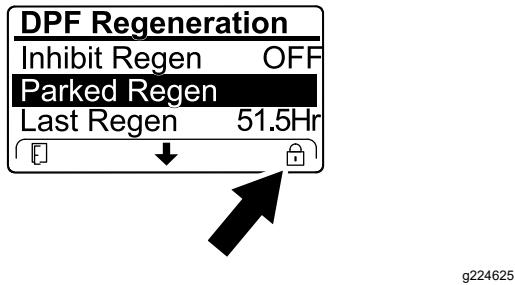

Figure 76
- If the engine computer requests a recovery regeneration or is processing a recovery regeneration and you scroll down to the PARKED REGEN option, parked regeneration locks and the lock icon (Figure 76) appears in the lower right corner of the InfoCenter.